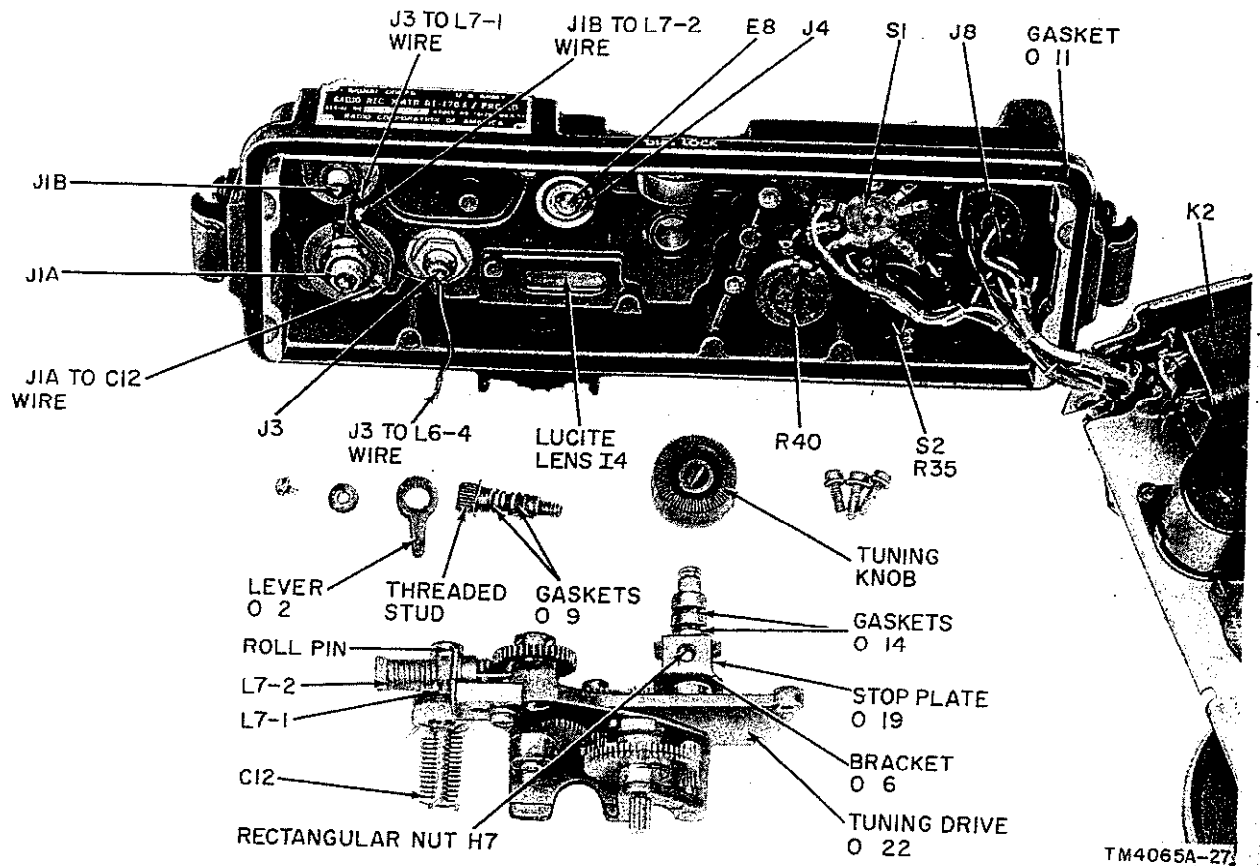

Figure 42. Tuning drive disassembled from control panel.
(fig. 42)
- (1) After removing the control panel (par. 70), unsolder the leads connector J8, unscrew the panel nut, and remove the connector.
- (2) To replace, insert the connector from behind the control panel, secure it with the panel nut, and resolder the leads.
c. *Replacement of Tuning Drive Mechanism* (figs. 42 and 43).
- (1) After removing the control panel (par. 70), unfasten the center screw, of the TUNING knob and remove the knob. Unsolder three leads: one at capacitor C12 between the grounding lug on J1A and C12, the second at L7 between the AUX ANT connector J8 and terminal 1 of L7, and the third also at L7 between the SHORT ANT connector J1B and terminal 2 of L7. Note position of leads so that they may be reconnected properly. Unfasten the screw at the head of the DIAL LOCK control. Remove the screw, lockwasher, and flat washer; pry off the lever (O 2). Unscrew the threaded stud assembly, and lift it out. Loosen the three mounting screws that secure the tuning drive to the control panel. If necessary, loosen the mounting screw that secures the bracket of L7 to the casting (after marking its position) to gain access to the mounting screw below the casting top surface. Remove the tuning drive assembly; be careful that the stop plate (O 19) and rectangular nut (H7) underneath the bracket (O 6) do not slip off the tuning shaft.
- (2) Before replacing the tuning drive assembly, check the condition of the two gaskets (O 14) on the tuning shaft, and the two gaskets (O 9) on the threaded stud of the DIAL LOCK mechanism. Replace if necessary. Place the bracket (O 6) in position on the tuning shaft with the stop plate (O 19) and rectangular nut (H7) (fig. 42). Place the assembly in position and insert the tuning shaft through the hole in the control panel. Look down through the DIAL LOCK opening and, with a thin-bladed screw driver, position the bracket, nut, and plate below, so that the threaded stud may be inserted into the nut. After threading the stud into the nut, and observing that one end of the bracket has not slipped off the shaft, secure the tuning drive assembly to the control panel. Fasten the three mounting screws evenly and tightly. Replace the
- (3) Thread the DIAL LOCK stud into the rectangular nut until the TUNING shaft begins to lock. Just before locking, fit the lever (O 2) on the head of the stud so that the lever may be turned to lock the tuning shaft. Secure the lever with the washers and screw previously removed.
- (4) Solder the three leads previously disconnected.
- (5) If the mounting screw of L7 was removed, replace and tighten it in its original position. Coil L7 is adjusted when its mounting screw (see bottom view in fig. 42) appears between the center and end of the elongated hole in the mounting bracket. The mounting screw should be closer to the end at the outer edge of the bracket, so that the adjacent tuning drive screw hole will be less covered by the mounting bracket.
d. Replacement of C12, Coil and Slug of L7 on the Tuning Drive Assembly (figs. 42 and 43). These three electrical items are provided as spares, and after tuning drive assembly is removed, these spares can be replaced as follows:
- (1) To replace the coil of L7, unfasten the screw which secures its mounting bracket to the aluminum casting of the tuning drive mechanism. Slip out the coil gently so that the slug of L7 does not fall off the casting ear into which it is hooked. Slip the new coil over the slug and secure it to the casting with the single mounting screw previously removed.
- (2) To replace the slug of L7, first remove the coil as described in (1) above. Then slip off the slug and hook the new slug on the casting ear. Slip the coil over the slug, and secure it to the casting.
- (3) To remove capacitor C12, drive out the roll pin through which its shaft is linked to the gear train. Slip off the gear, and